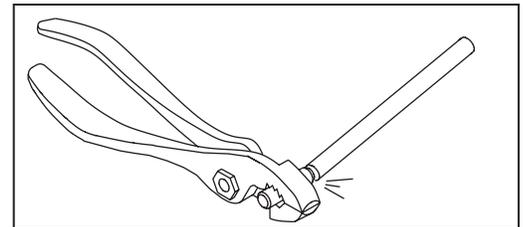

Figure 3: Breaking the Trip Rod
loosen the locking screw and remove the trip rod from the trip lever. Using pliers, break off the one (1) inch long notched section (see Fig. 3). Reinstall trip rod and repeat Step 3 procedure.
Note: If trip rod length is excessive, loosen the locking screw and remove the trip rod from the trip lever. Using pliers, break off the one (1) inch long notched section (see Fig. 3). Reinstall trip rod and repeat Step 3.